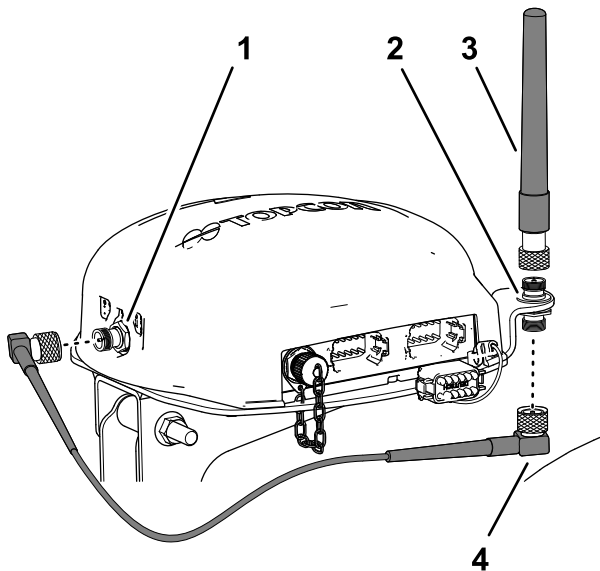

Figure 158
3. Assemble the RTK antenna onto the upper fitting of the coaxial coupler, and tighten the knurl nut of the antenna by hand (Figure 158).
4. Loosely assemble the antenna cable to the lower fitting of the coaxial coupler (Figure 158).
5. Route the cable around the back of the navigation receiver to the coaxial connector of the CDMA or GSM cellular modem (Figure 158).
6. Assemble the antenna cable to coaxial connector of the CDMA or GSM cellular modem (Figure 158).